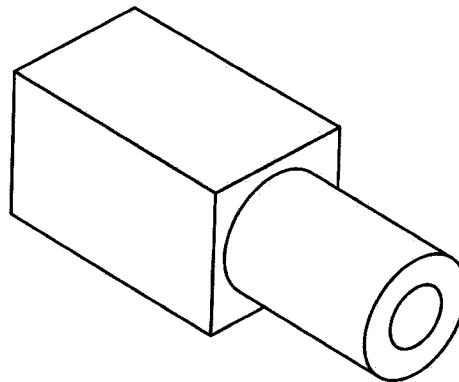

Figure 3
- (c) **Figure 3** shows a component to be made from a square plank $25 \times 25 \times 80$ mm long.